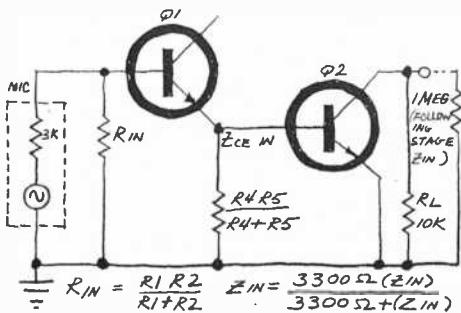

Fig. 7. Convert to equivalent ac design.
• 6. To calculate the ac values, redraw the circuit showing all bypassed resistors as shorts to ac and the input impedance of the following stage as resistors (Fig. 7). Note that R_1 and R_2 in parallel form R_{in} which is in parallel with Z_{in} of the emitter follower to form the amplifier input impedance. Since the input impedance of the emitter follower is dependent on the input impedance of the common emitter, we must determine the latter from Fig. 4A. Since $I_r = 0.36$ mA and beta is 50, the input impedance is 3600 ohms. The latter is in parallel with R_4 and R_5 , the bias resistors. The parallel value of R_4 and R_5 is approximately 8800 ohms, which, in parallel with 3600, comes to about 2560 ohms.